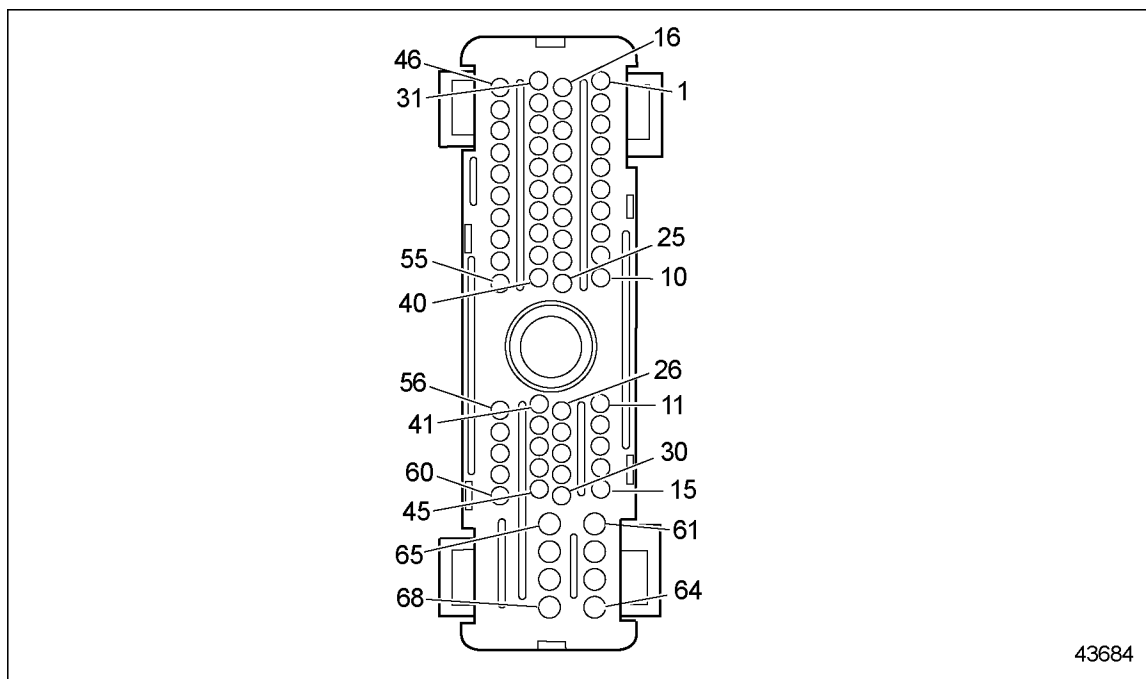

Figure 28-3 ECM/ECU Engine Harness Connector
4. Measure resistance between sockets E-9 and E-14 on the Engine Harness connector. See Figure 28-3.